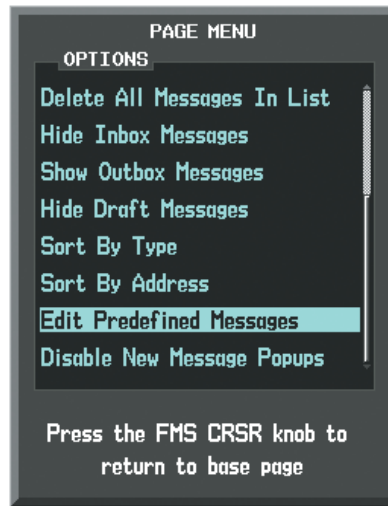

Figure 8-98 Creating/Editing Predefined Messages
- 2) Turn either **FMS** Knob to select 'Edit Predefined Messages' as shown in Figure 8-98.